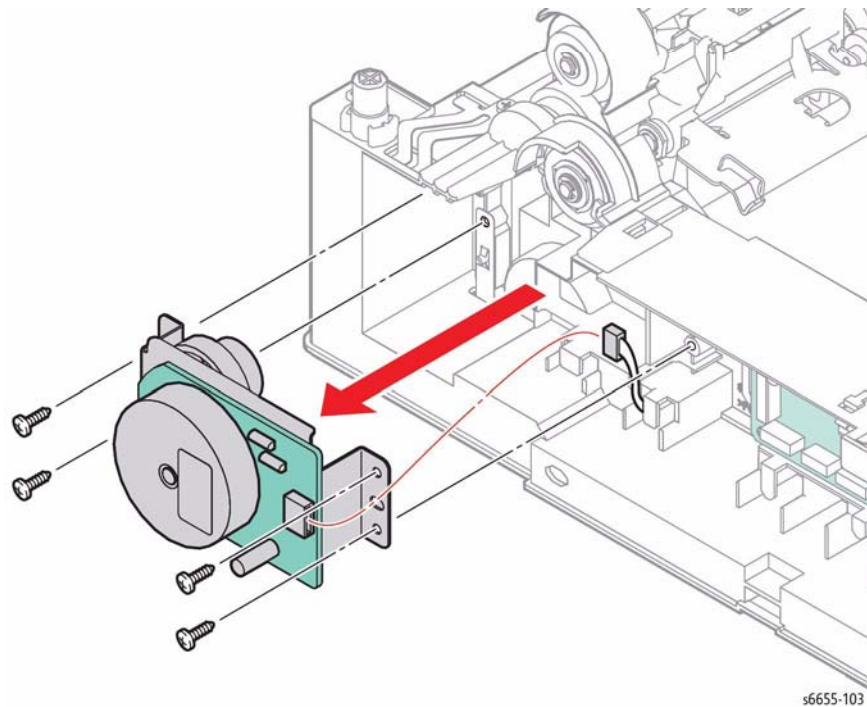

Figure 1 Remove the 550 Option Drive Assembly
3. Refer to Figure 1 to locate and unplug connector P/J4221 from the 550 Option Drive Assembly.